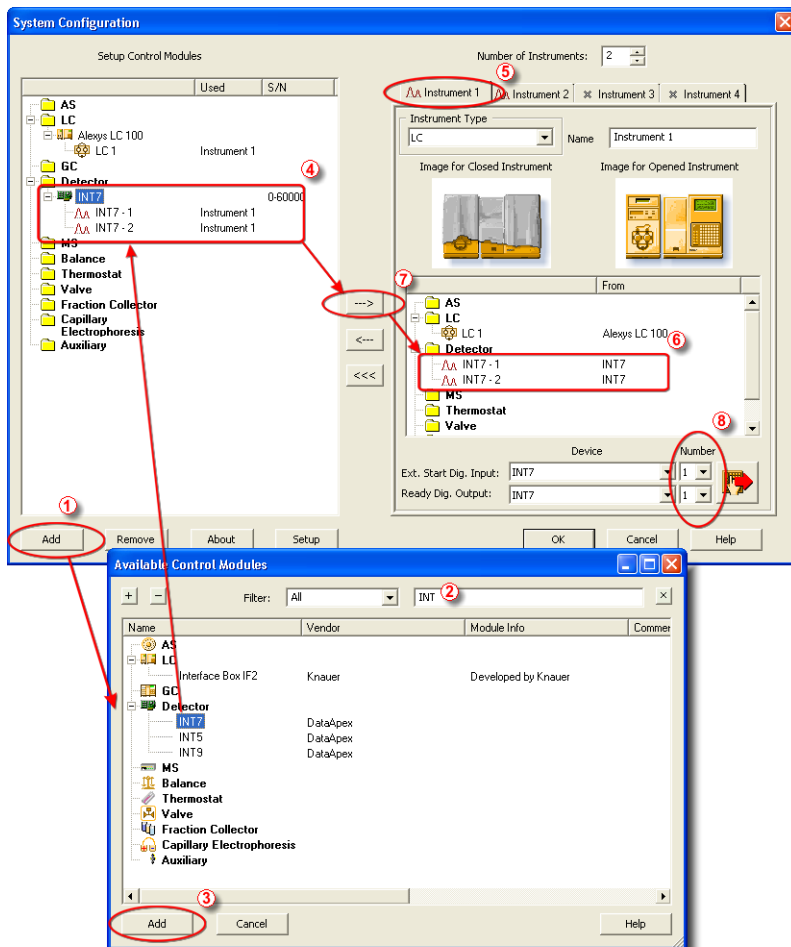

Fig. 4: System Configuration
- Press the *Add* button ① (See Fig. 4 on pg. 8.) to invoke the *Available Control Modules* dialog.
- You can specify the searching filter ② to simplify the finding of the driver.
Note: The input used for an external start from a chromatograph can be set in the *System Configuration* dialog, see **Fig. 4** on pg. 8.